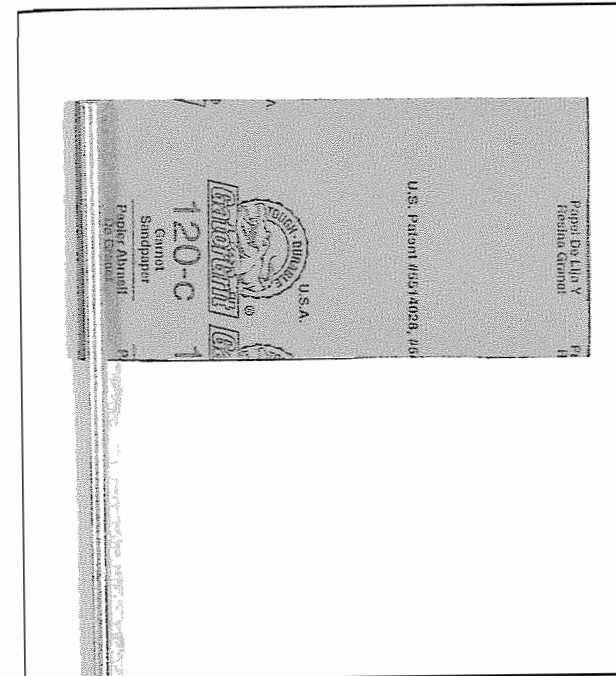

Figure 9-12. The sandpaper is glued to a 1/4" dia. steel rod with Krazy Glue. Glue it as shown, like a flag pointing right.
1. Cut the sandpaper to size, and glue the rod to the *back* of the sandpaper with the Krazy Glue (*Figure 9-12*). Glue it as shown like a flag pointing right, and place a weight on the rod to hold it firmly to the paper until the glue has hardened.